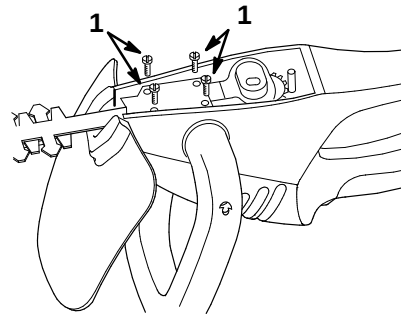

Figure 19
6. Remove blade screws (Fig. 19).
10. Replace blade screws (Fig. 19).